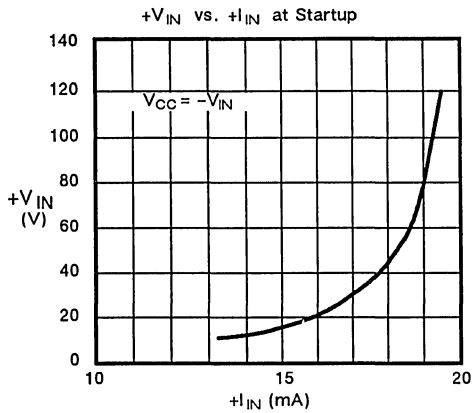

Figure 4
**NOTE:** During startup or when VCC drops below 8.6 V the startup circuit is capable of sourcing up to 20 mA. This may lead to a high level of power dissipation in the IC (for a 48 V input, approximately 1 W). Excessive start up time can result in device damage. See Figure 4 for calculation of power dissipation during start up.